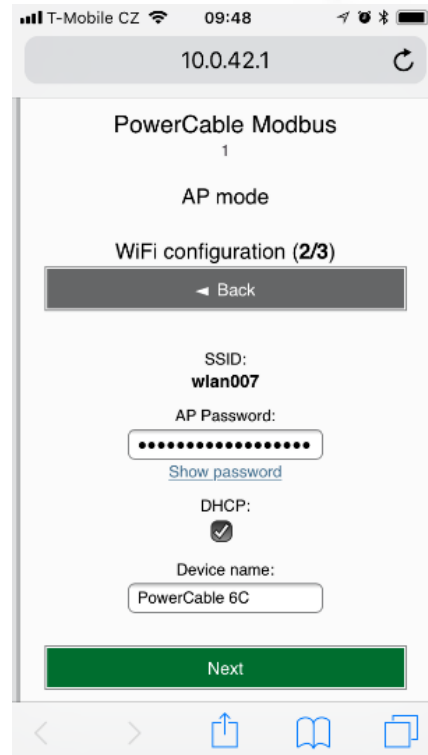
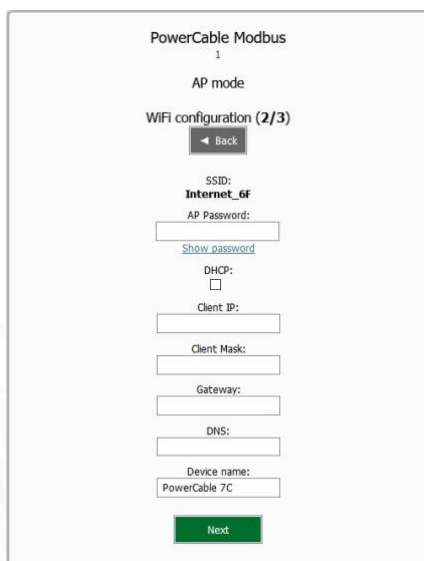

Figure 25 - Connecting to Wi-Fi in AP mode
Figure 26 - Configuring the network IP parameters
- Enter the password for the selected WiFi network. You may also change the device name. If your network does not use DHCP, unselect this option and manually enter the IP address and other network parameters (Figure 26; for experts only). Click “Next” to confirm (Figure 25).